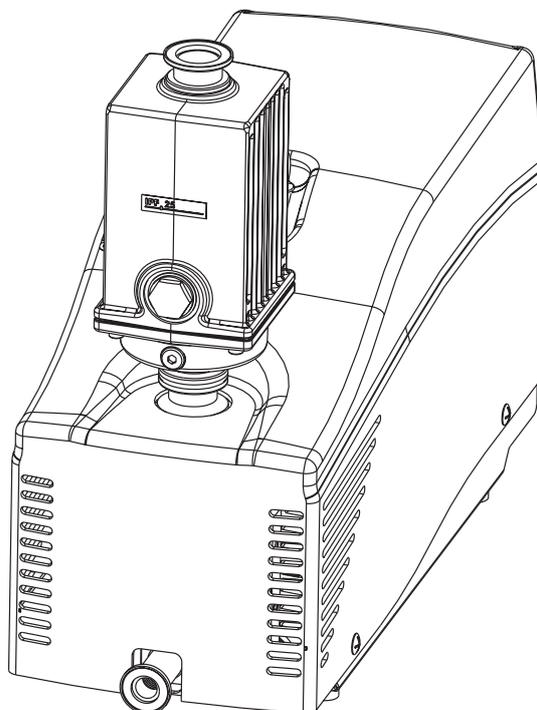

Figure 1
- Assemble according to **Figure 1 or 2** using the connection accessories provided with the filter.